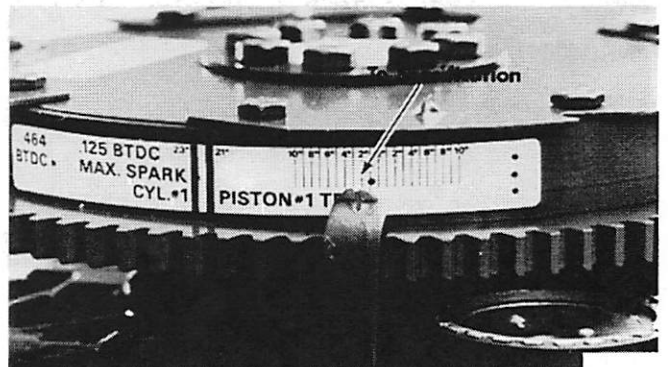

Figure 3. Adjusting Throttle Pickup - Primary
1. With timing light installed, turn ignition key on and start engine. Hold timing light in line with degree markings on flywheel decal (Figure 3) and advance throttle until timing pointer aligns on timing decal to specification.